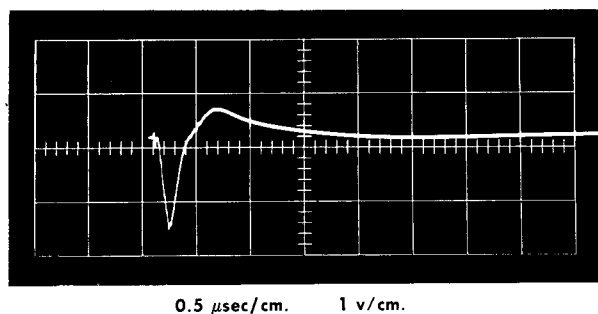
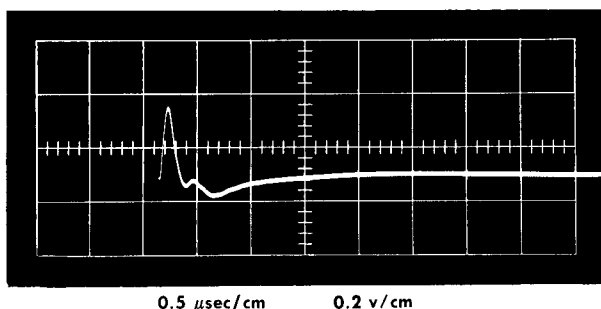

Fig. 4-4. Ac Amplifier output with conditions described in text.
Fig. 4-5. Preamplifier output with conditions described in text.
TRIGGER SLOPE	—INT (Fig. 4-4), +INT (Fig. 4-5)
VOLTS/CM	As in Figs. 4-4 and 4-5
9. Connect the test oscilloscope 10X Probe ground clip to the ground side of the LOOP GAIN control R313 (NOT to the chassis), and the probe tip to the junction of R315 and C315. Connecting the probe in any other way can cause the Ac Amplifier to oscillate. The test oscilloscope display will now be that of the Ac Amplifier output. If there is no trouble up to this point, the display will be similar to Fig. 4-4, but not necessarily the same amplitude or polarity. If there is trouble in the Ac Amplifier, there will be no signal.
If there is a pulse similar to Fig. 4-5, and it can be altered in the same manner as the Ac Amplifier pulse was altered in step 9, the trouble is not in the Preamplifier.